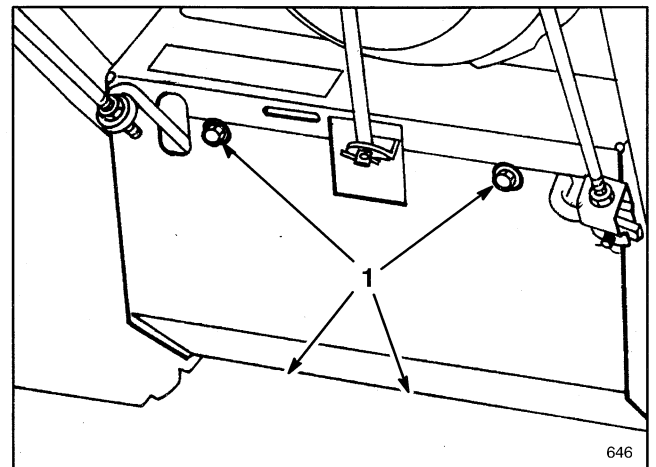

Figure 26
6. Remove (4) screws securing bottom cover to frame (Fig. 26). Remove bottom cover.
2. Remove (4) screws securing bottom cover to frame. Remove cover (Fig. 26).